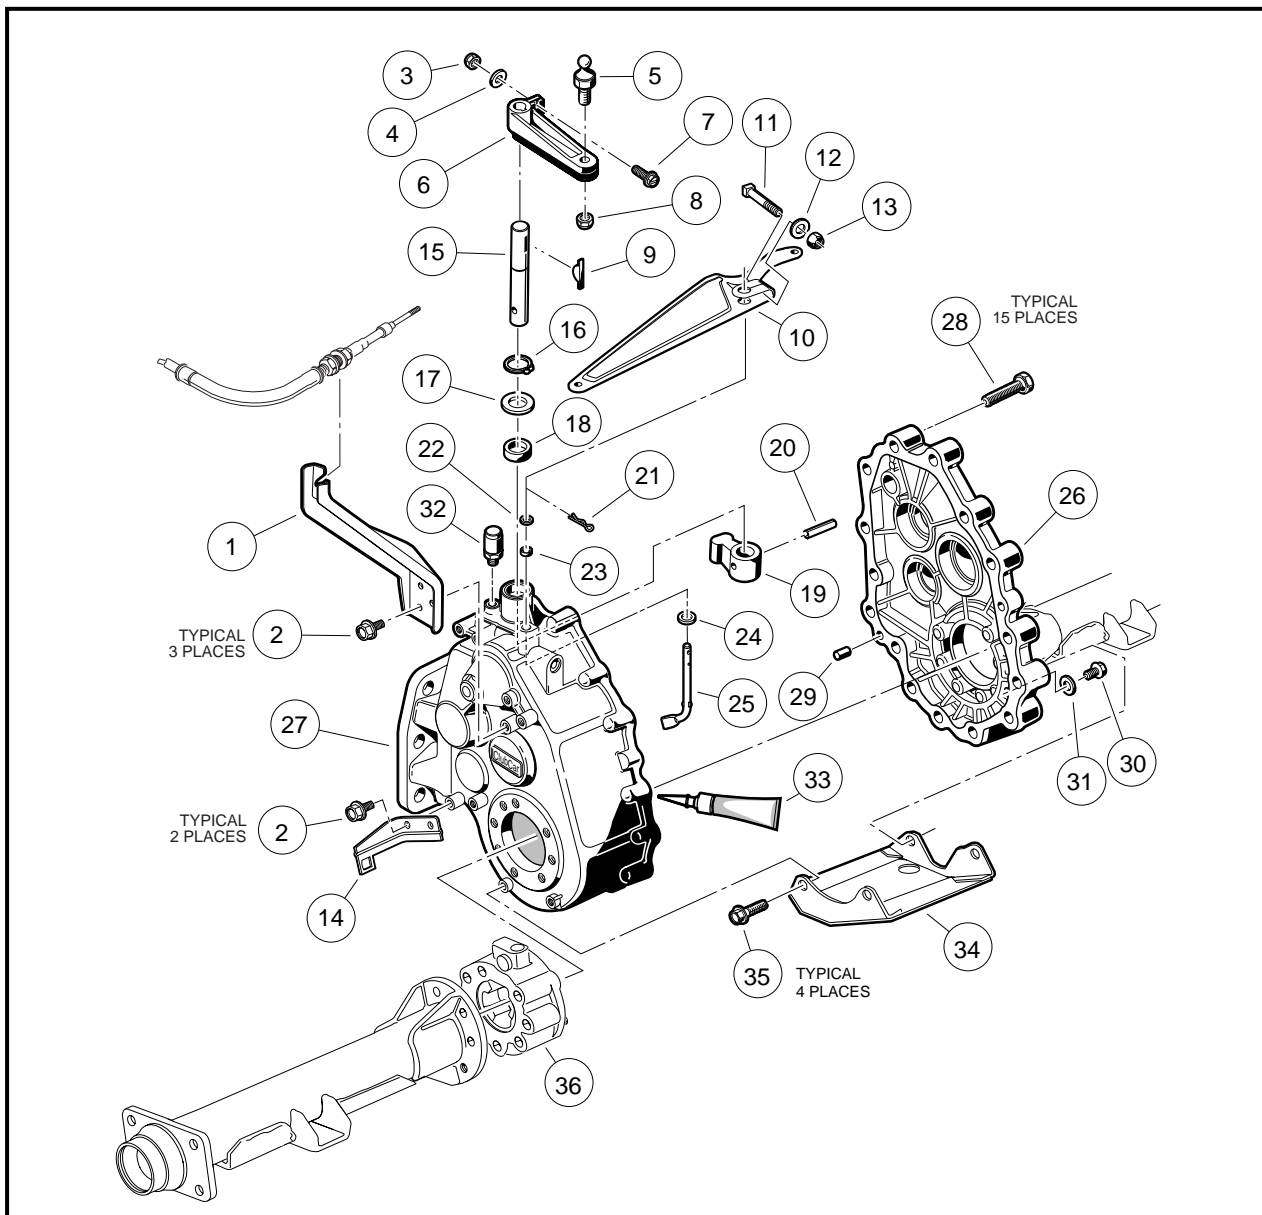
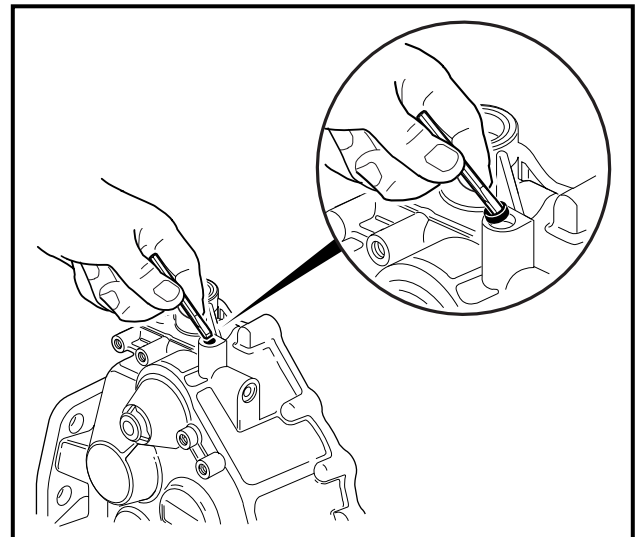

Figure 16-40 Transaxle Gear Casing and Brackets
Figure 16-46 Pivot Arm Oil Seal
- 3.9. Remove screws (2) securing the Forward/Reverse shifter cable bracket (1) to transaxle and remove the shifter bracket (**Figure 16-40, Page 16-16**).
- 3.10. Loosen nut (3) and bolt (7) on transaxle shifter lever and remove lever from shaft (15) (**Figure 16-40, Page 16-16**).
- 3.11. Remove woodruff key (9) from shifter shaft (15) (**Figure 16-40, Page 16-16**).
6. Remove the differential lock housing (36) from the transaxle case (27) (**Figure 16-40, Page 16-16**).
7. Remove the four bolts (35) and the differential guard (34) from the transaxle.
8. Remove the fifteen bolts (28) that hold the transaxle housing together (**Figure 16-40, Page 16-16**).
- 16.1. Use snap ring pliers (.047 tip) to remove the retaining ring (16) on the shifter shaft (**Figure 16-40, Page 16-16**).
- 16.2. Remove flat washer (17) from the shifter shaft on the outside of the case as shown, then remove the shifter shaft by pushing it through the case toward the interior of transaxle (**Figure 16-40, Page 16-16**).
- 16.3. Use a seal puller to remove the shifter shaft oil seal (18) from the case (**Figure 16-40, Page 16-16**).
17. Remove the breather (32) from the case (**Figure 16-40, Page 16-16**).
- 18.1. Remove the cotter pin (21) and flat washer (22) from the pivot arm (25) (**Figure 16-40, Page 16-16**).
- 18.3. Use a small chisel or similar pointed instrument to pry the pivot arm oil seal (23) (**Figure 16-40, Page 16-16**) out of the case (**Figure 16-46, Page 16-18**).